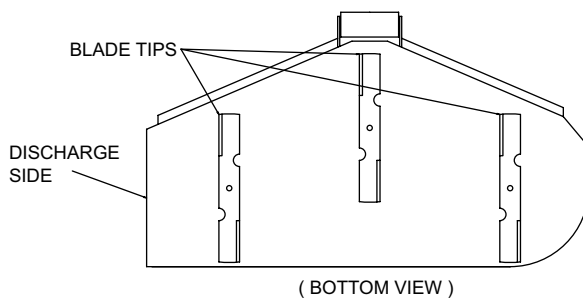

FIG. 1
3. Stop engine and Remove the ignition key. While wearing heavy gloves rotate the blades so that they are all pointing to the forward side of the deck. (See fig.1) Measure from the blade tip to the ground on all three blades. If there is more than 3/16" difference from one side of the deck to the other, the deck should be leveled.
Remove or install the blades by placing a block of wood between the front or rear baffles and the blade. When replacing the blade bolt be sure the spring disk washer cone is installed toward the bolt head (See fig. 1).